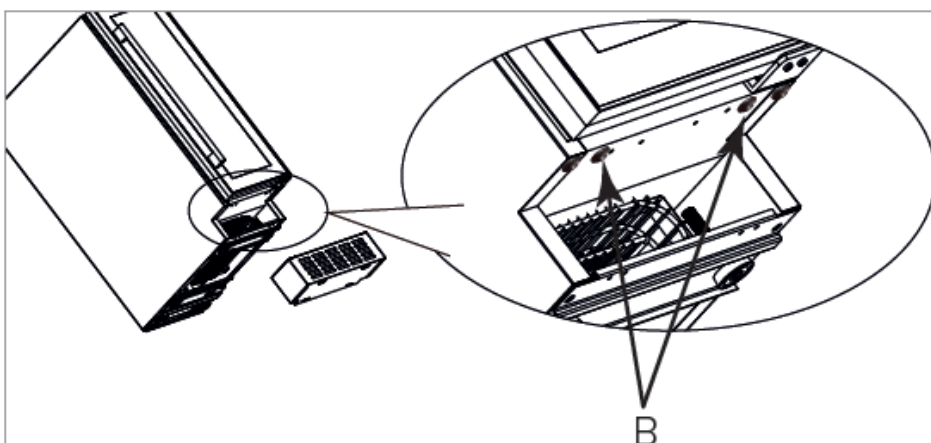

Fig. 15
5. If present, remove the screws indicated by arrows and marked 'B' in Fig. 15. These screws are not necessary.